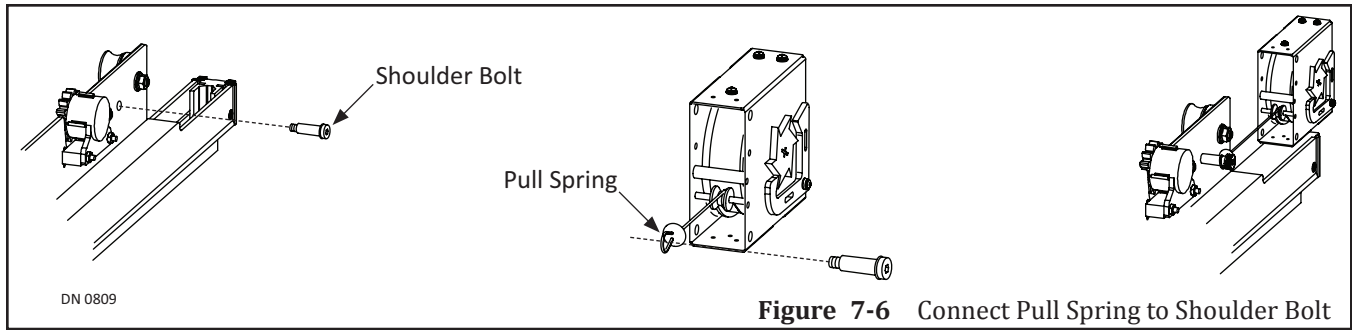

Figure 7-6 Connect Pull Spring to Shoulder Bolt
2. Go to the Shoulder Bolt located between (2) Hanger Rollers closest to the Strike Jamb. Please see Figure 7-6.